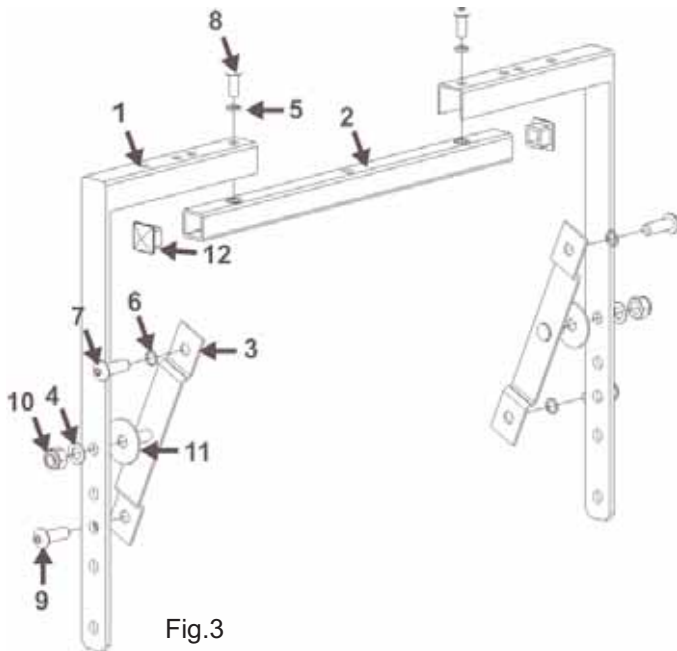

Fig.3
The Tannoy **VNET™** loudspeaker is attached to the bracket using the M10 bolts and washers supplied in the accessory pack. Only the screws, fasteners, shake proof and plain washers specified on figure 3. should be used to assemble the VMY bracket
Pivot studs (Figure 3.) (Supplied with the VMY) are attached to the cabinet using the M10 bolts supplied. These bolts locate on the M10 inserts in the cabinet. The VMY adjustable yoke bracket then connects to the centre of these mounting plates (using the M10 screws supplied). These bracket pick up points which are in line with the bracket's axis of rotation, are also positioned on the centre of gravity of the **VNET™** in both orientations to allow easy adjustment for optimum coverage.
Use the table of parts along with the assembly drawing (Figure 3.) to assemble the VMY. Figure 4 shows the VMY assembled.
**Only the screws, fasteners, shakeproof and plain washers specified on figure 3. should be used to assemble the VMB bracket**